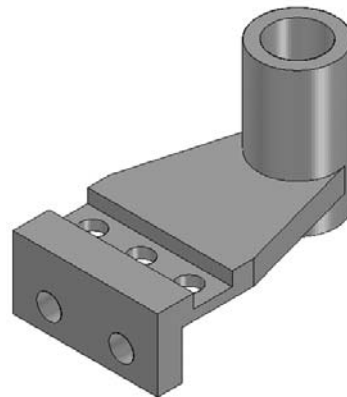

Figure 5-57 Final model for Tutorial 1
- Create the remaining cutouts to complete the model, refer to Figure 5-57.
1. Create the remaining two cutouts. The model after creating all features is shown in Figure 5-57.